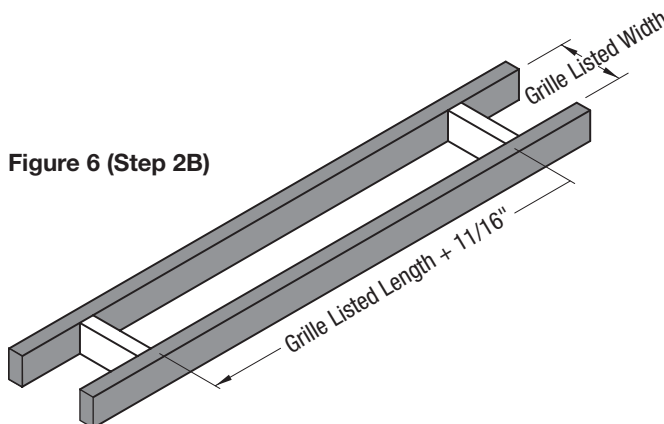

Figure 6 (Step 2B)
- B. In general, the length of the opening within the framing should be the ordered nominal grille length plus 11/16" (see Figure 6) and the opening width should be the ordered nominal grille width.